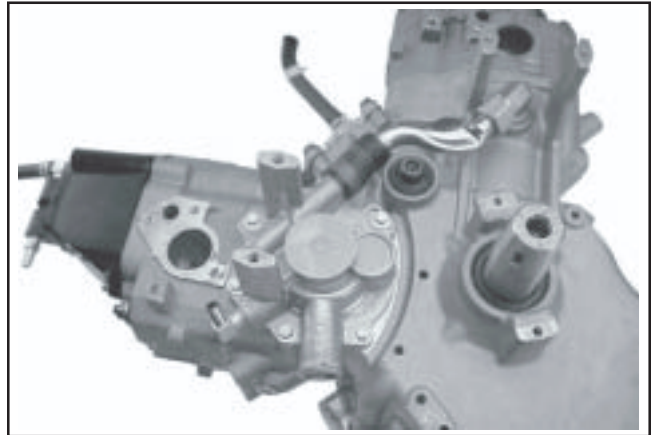
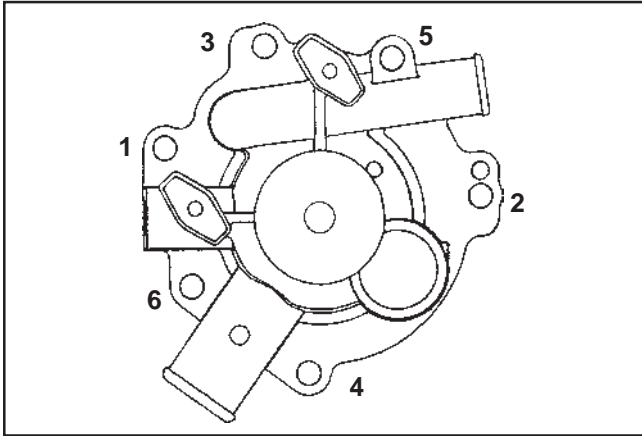

Figure 11-49. Installing Water Pump Assembly.
Figure 11-51. Water Pump Torque Sequence.
- Carefully push the water pump down from the raised position, thereby rotating the tube 90° within the end connections. Guide the pump into position over the O-Ring; aligning the two mounting pins and five screw hole locations. See Figure 11-49. Start all of the screws, with the longer screw nearest the pump outlet. Torque the screws to **9.9 N·m (88 in. lb.)** in the sequence shown in Figure 11-51.